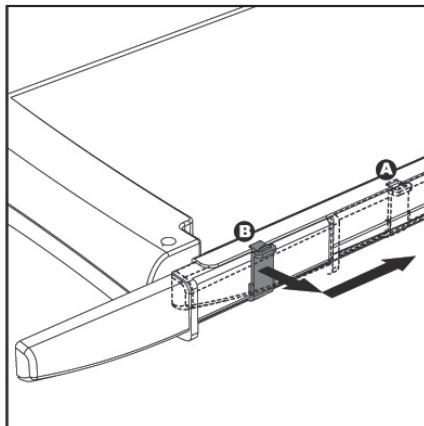

Figure 3
- Take the guillotine trimmer on the lowest position, lift the lock button to the right and move it from position B to A to lock the guillotine trimmer after use. (see Fig 3)